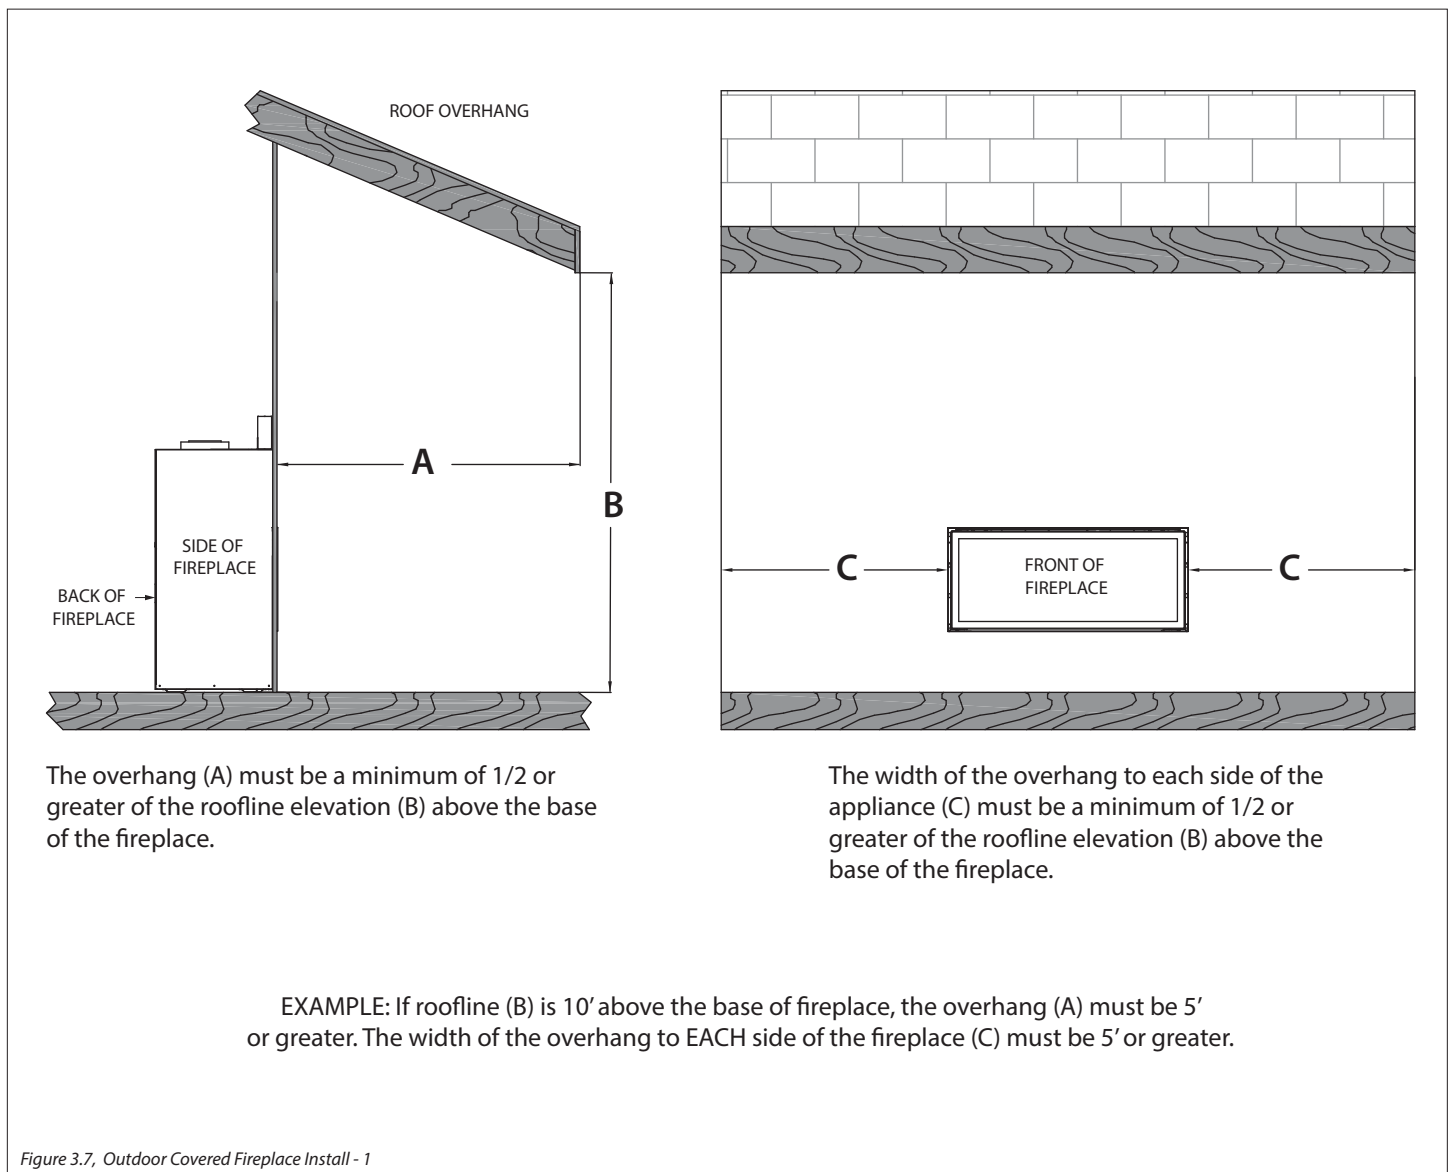

Figure 3.7, Outdoor Covered Fireplace Install - 1
- The continuous insulated building envelope and weatherproof membrane are not to be interrupted by fireplace installation. See Figure 3.7 on the following page.